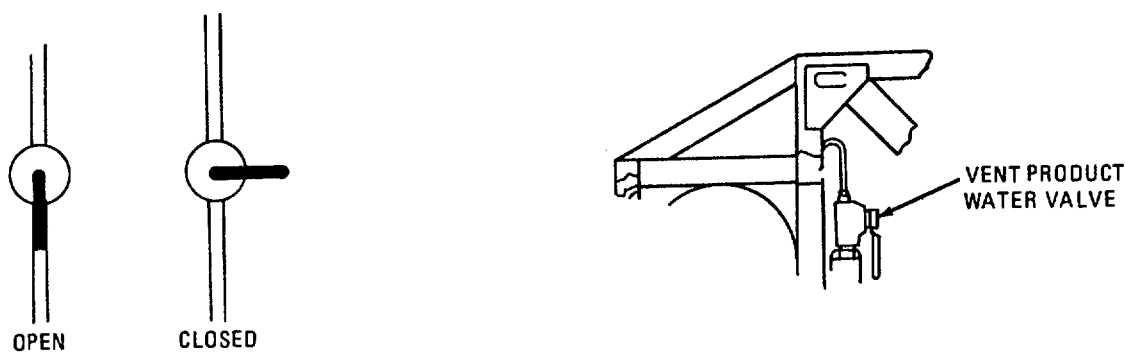

FIGURE 2-6. VENT PRODUCT WATER VALVE
f. Vent Product Water Valve. The vent product water valve (figure 2-6) is located to the right of the top R.O. vessel. It allows air to escape from the product water line. It is located on top of the product water manifold.